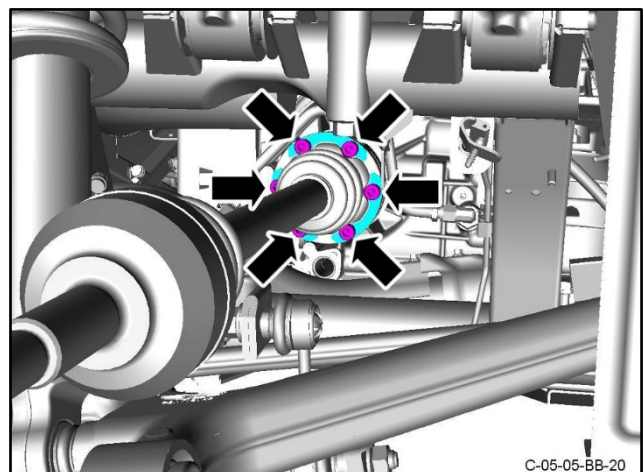

Figure 59
- 115.** Put the right-side drive shaft flange in position on the transaxle shaft (refer to Figure 59). Align the marks on the drive shaft flange that you made during step 23.